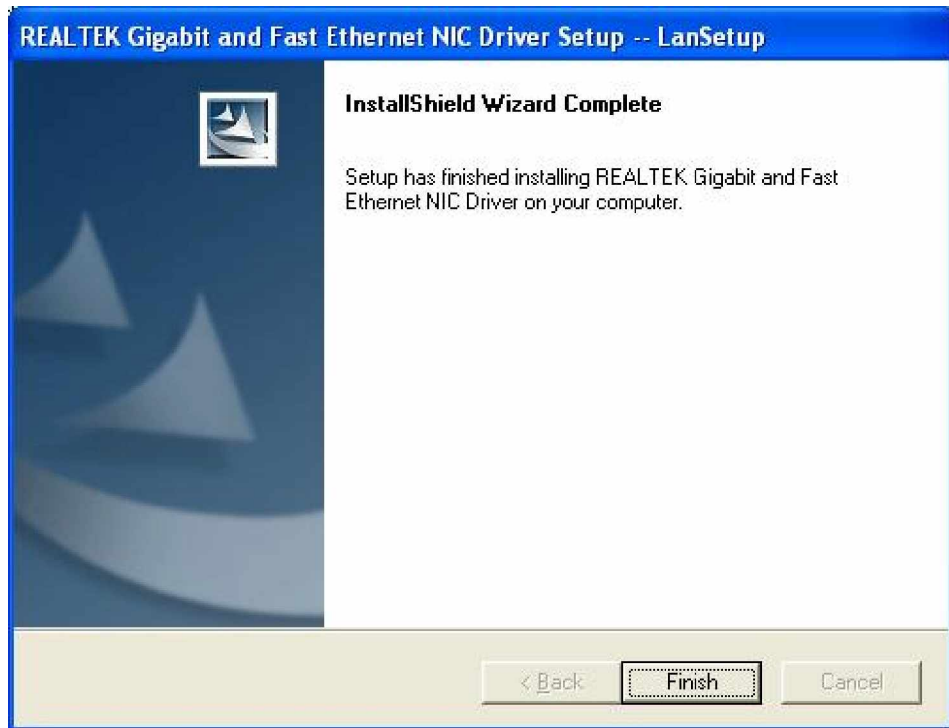

Figure 6-24: LAN Driver Installation Complete
- Step 2:** Once the **Setup** icon is double clicked, a **Welcome** screen shown in **Figure 6-24** appears.
- Step 3:** To continue installing click "**Next.**" The driver is installed and a confirmation screen at the end of the installation appears. (See **Figure 6-24**) **Step 0:**